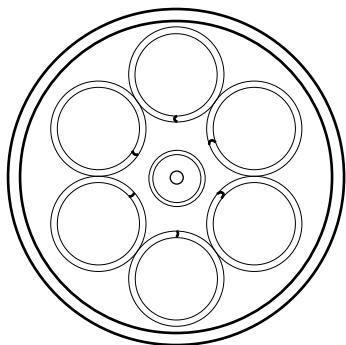

Figure 1
Note: Arrange springs so that the coil ends are pointed toward the actuator stem as shown in Figure 1. This step assures best actuator performance.
- J. Replace stem wiper (11) and O-rings (12 and 13).
- K. Coat O-rings (12 and 13) and inside of stem bushing (30) with Dupont Compound III (or equivalent).
- L. Install stem bushing (30) in the yoke with new O-rings (12 and 13).
- M. Place the diaphragm case (17) on the yoke.
- N. Coat the surface of the spring guides (29) in contact with the diaphragm case with Dupont Sealant Compound III or equivalent. Assemble spring guides (29), new seal washers (15), and cap screws (16) in this order.
- O. Re-install the actuator stem (10) subassembly into the yoke bushing. Turn actuator stem into insert (6), (size 10), or into the top stem connector (4), (size 16 and 23). In case of size 6 actuator, turn actuator stem on the plug stem after installing the stem connector (2). Turn until stem spacer (14) contacts the lower diaphragm case (17).
- P. Tighten lock nut (32) against connector insert (6), (size 10), or against the top stem connector (4), (on sizes 16 and 23). In case of size 6 actuator, lock the stem connector (2) and the two nuts (1) against the lower part of actuator stem.
- Q. Position springs (21) and spring spacers (18) [if used] in the diaphragm plate.
- Note: Arrange springs so that the coil ends are pointed toward the actuator stem as shown in Figure 1. This step assures best actuator performance.*
- R. Replace upper diaphragm case (24) and the tension bolts (27, 28 and 56).
- S. Tighten the tension bolts (27, 28 and 56) in equal steps until the cases meet. Replace the remaining cap screws (20) and nuts (19).